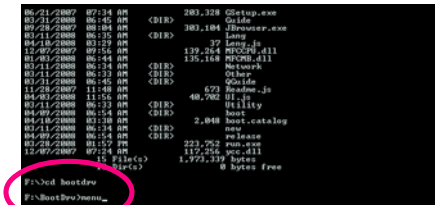

Figure 1
Step 1: Insert the prepared startup disk and motherboard driver disk in your system. Boot from the startup disk. Once at the A:\> prompt, change to your optical drive (example: D:\>). At the D:\> prompt, type the following two commands. Press <Enter> after each command (Figure 1):